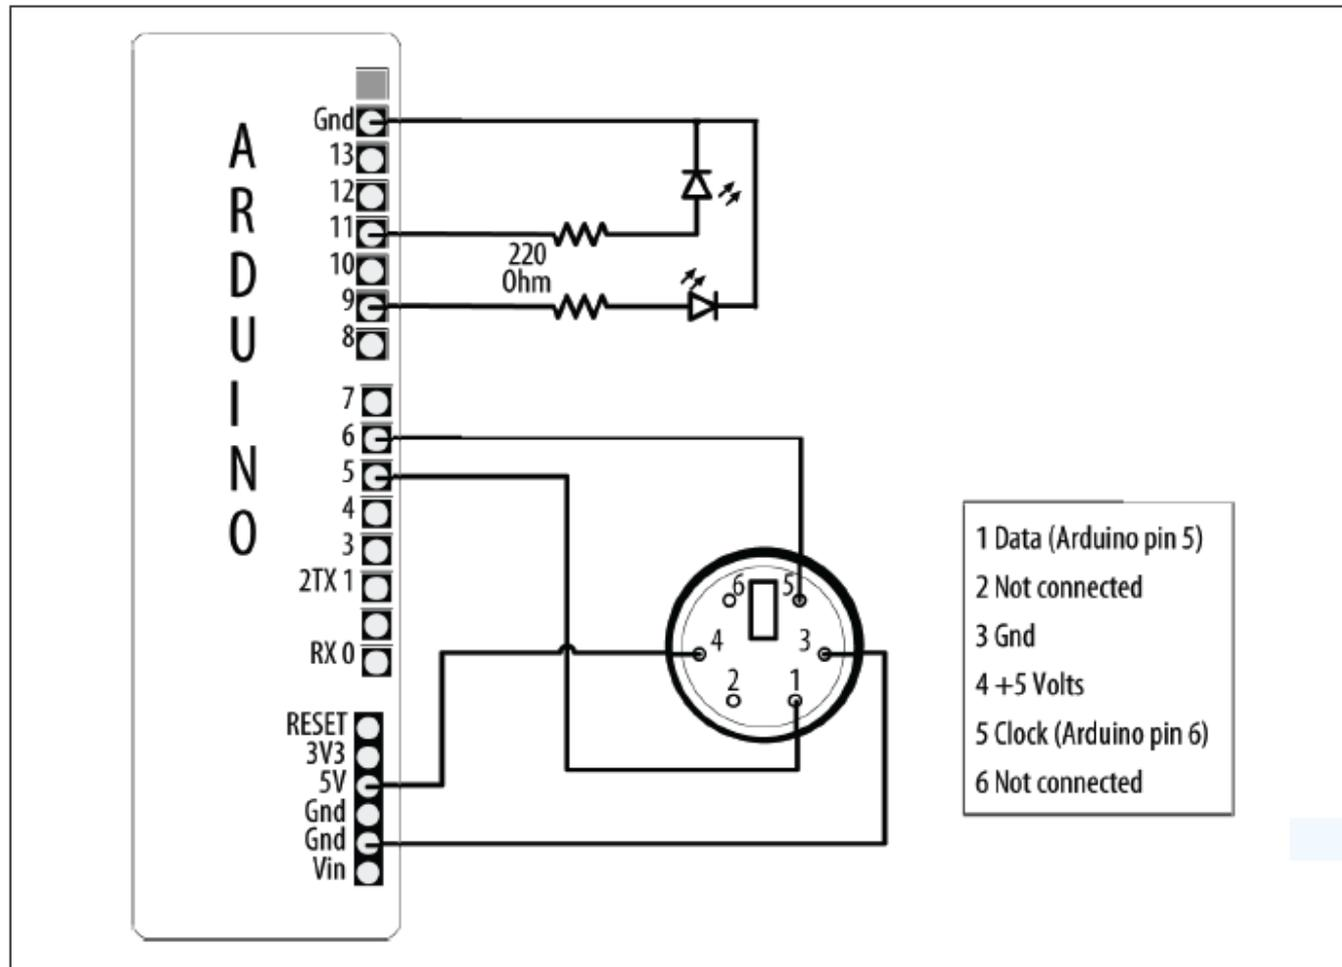

Figure 6-16. Connecting a mouse to indicate position and light LEDs
- **This solution uses LEDs to indicate mouse movement. The brightness of the LEDs changes in response to mouse movement in the  $x$  (left and right) and  $y$  (nearer and farther) directions. Clicking the mouse buttons sets the current position as the reference point (Figure 6-16 shows the connections):**